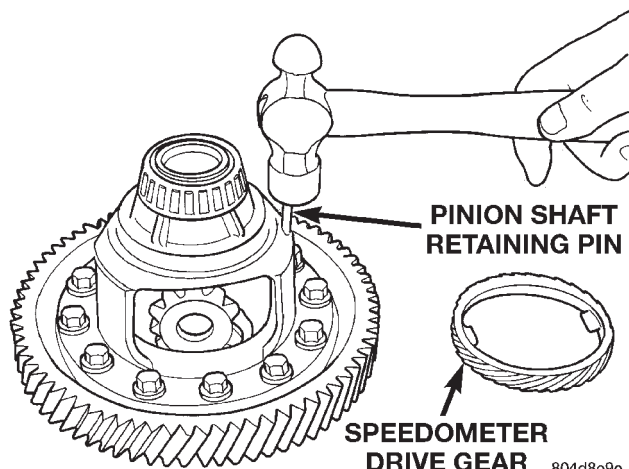

Fig. 122 Install Retaining Pin
(1) Assemble the differential side gears, pinion gears and pinion gears with the pinion gear washers.
(2) Install pinion shaft retaining pin (Fig. 122).